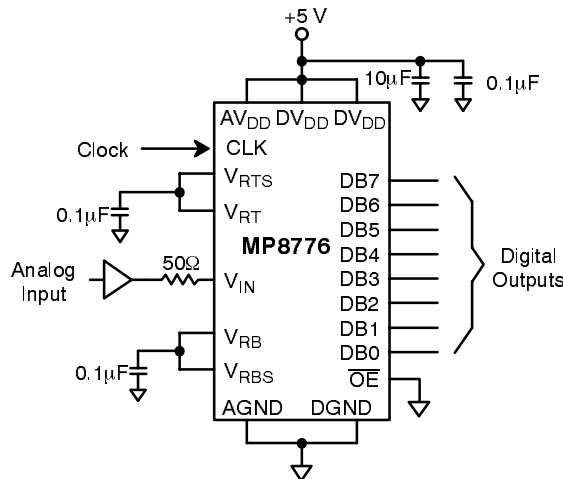

Figure 6. Typical Circuit Connections
AV_{DD} and DV_{DD} should be connected to the sample power supply source (Figure 6.). The power supply (AV_{DD} and DV_{DD}) and reference voltage (V_{RT} & V_{RB}) pins should be decoupled with 0.1 μ F and 10 μ F capacitors to GND, placed as close to the chip as possible.
2. It is important to note that op amps have inductive output impedances at high frequencies which is a consequence of the emitter impedance of the typical push-pull output stage. The resulting transient ringing should be damped by inserting a resistor in series with the ADC input – typically about 50 Ω . See Figure 6. The exact value may be obtained from the op amp manufacturer's data sheet.